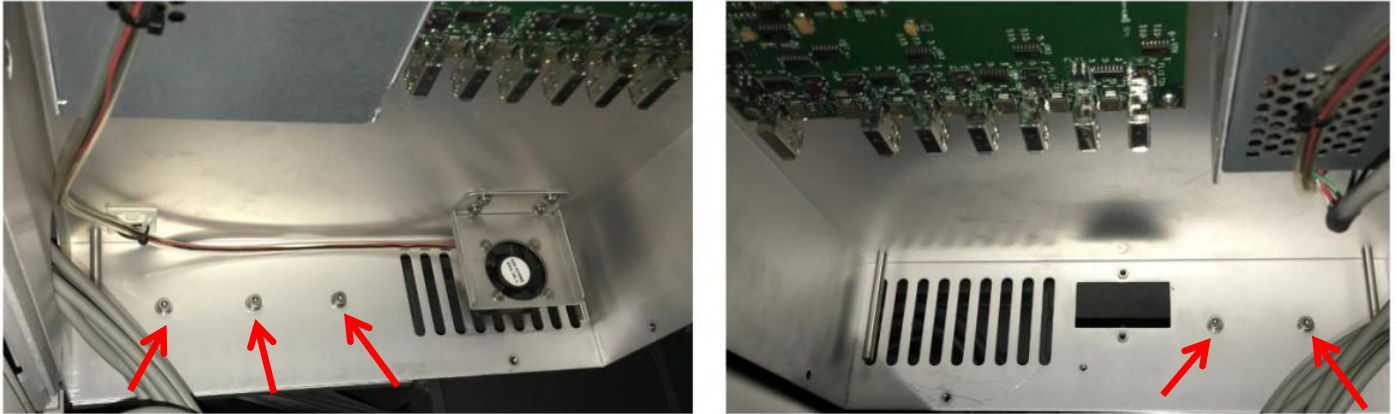

Figure 8 Trigger Board Tray removal
10. Loosen 5 x screws at Trigger Board Tray as below Figure 8